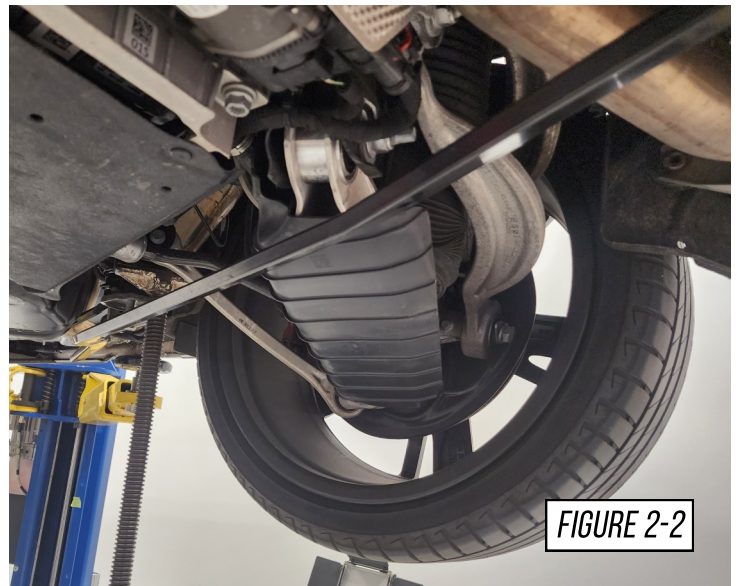

FIGURE 2-2
With the subframe bolt removed, remove the chassis brace, shown at (B) in **Figure 2-2**.